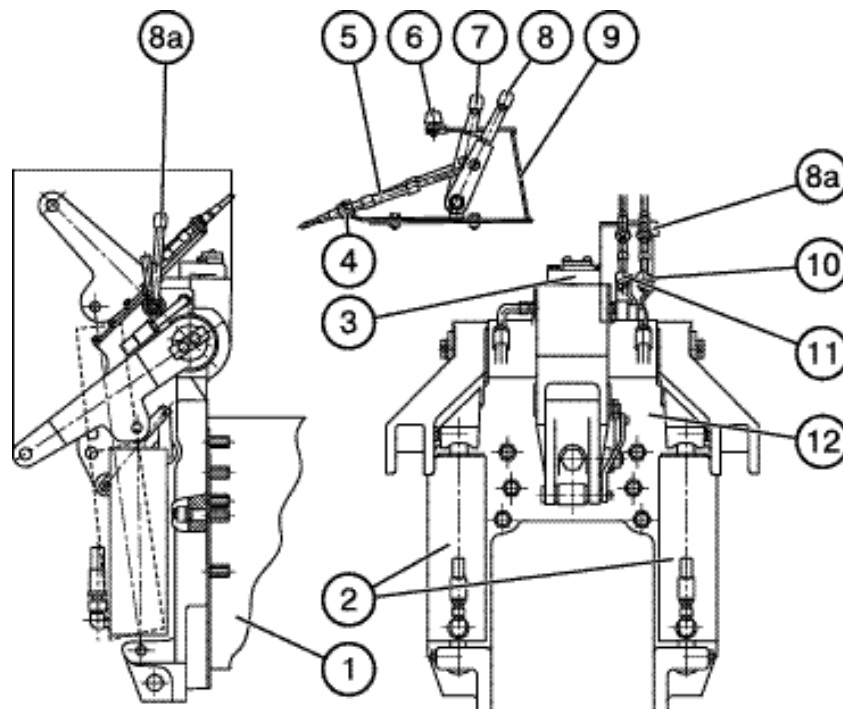
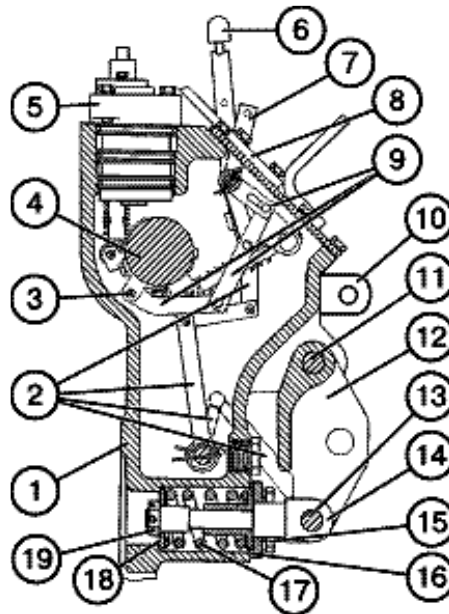

Fig.E-29. Hydraulic power lift of the HLL (monoblock):
Fig.. E-30. Hydraulic power lift construction:
The **operating controls** of the hydraulic system (7), (8) (Fig. E-29) are located in the tractor cab, with the exception of the pump engagement handle (the design is
left unchanged) and additional position control handle (8a) (Fig. E-29) located on the rear of the tractor on the hydraulic power lift.
The **draft control handle** (7) (Fig. E-29) is located on the right-hand control panel (9), the first from the operator's seat. The operational range of the handle positions is marked with digits from 1 to 9 that corresponds to the entire span of ploughing depths from minimal to maximal ones, respectively.
The **position control handle** (8) (Fig. E-29) is located next to the draft control handle (7). Its operating range is marked with the same digits which cover RHL positions from the upper transport position down to the lowermost position, respectively.
The **additional position control handle** (8a) (Fig. E-29) is located on the rear of the tractor on the hydraulic power lift. Pulling this handle towards the operator standing behind the tractor and looking along the tractor forward travel lifts the RHL and pushing the same from the operator lowers the RHL.
Hydraulic Power Lift (Fig. E-29, E-30)
The hydraulic power lift (Fig. E-29) is installed on studs, on the rear wall of the rear axle casing (1) and consists of a control unit and a regulator-distributor (3) built
The control unit is mounted in the monoblock (1) (Fig. E-30) and consists of a position sensor in the form of a bracket attached to shaft (4) of the RHL lift levers (10); draft sensor involving the coupling link (12) mounted on axle (11) in the monoblock (1) and coupled with rod (14) on pin (13). The spring (17) preloaded by the nut (19) is fitted on the rod (14). Through a leverage system (9) the position sensor (3) is connected to position handle (6). The pin (13) of the rod (14) is coupled with draft handle (7) through leverage (2).
When the position control is used, the draft handle (7) (Fig. E-30) should be shifted to its foremost position, in the direction of the tractor forward travel. Further control of the hitch linkage is achieved by means of the position lever (6) (Fig. E-30) and handle (7) via ropes (5) (Fig. E-29). When moving the lever (6) backward, the hitch linkage is lifted and then moving the lever (6) forward, the hitch linkage is lowered. This adjusting process is performed by means of the regulator-distributor built in the monoblock (1) and controlled by means of the position sensor (3).
Using the position control handle (8) (8) (Fig. E-29) for limiting the ploughing depth when operating in the draft control mode makes it possible to achieve the **combination adjustment**.
The hydraulic power lift drive (Fig. E-29) consists of a bracket (4) with the draft (7) and position (8) handles mounted on it. The latter are connected to the draft (11) and position (10) levers, respectively, by means of two-way ropes (5). The control levers are locked by spring-loaded friction disks.